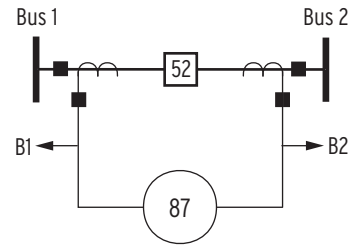

Figure 15 Two CTs Configured With a Differential Element Across the Breaker
- ▶ Two CTs configured with a differential element across the breaker (Figure 15)